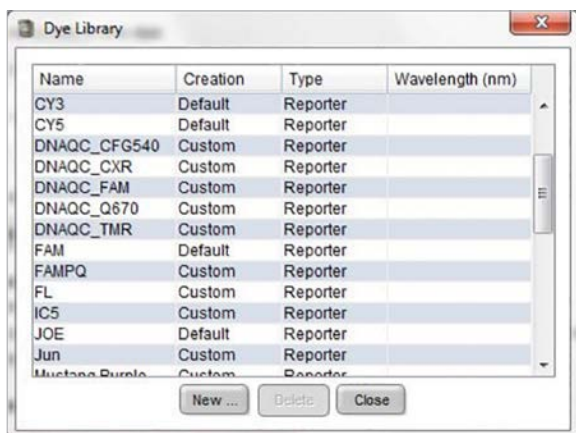

Figure 3. The New button in the Dye Library window.
- In the Dye Library window that appears, select the “New” button (Figure 3).